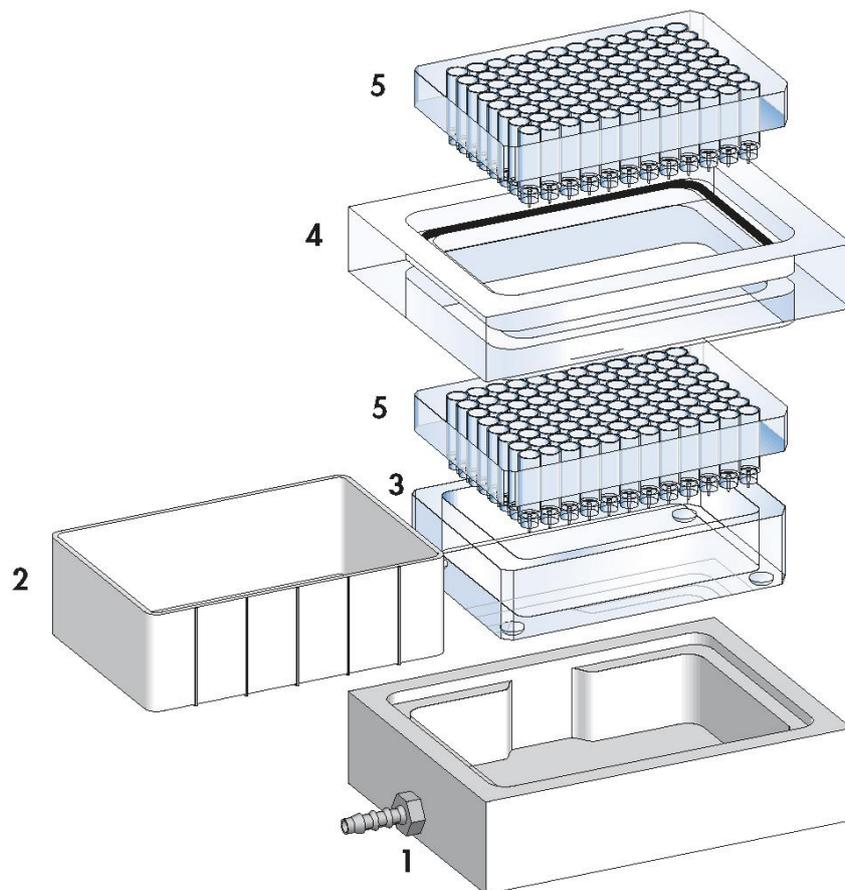

Figure 1. QIAvac 96 vacuum manifold. Components of the QIAvac 96 vacuum manifold
- QIAvac 96 vacuum manifold (see Figure 1, page 12)
QIAvac 96 facilitates the miRNeasy 96 procedure by providing a convenient, modular vacuum manifold (see Figure 1, page 12) for use with the miRNeasy 96 Kit. The following recommendations should be followed when handling the QIAvac 96 vacuum manifold.